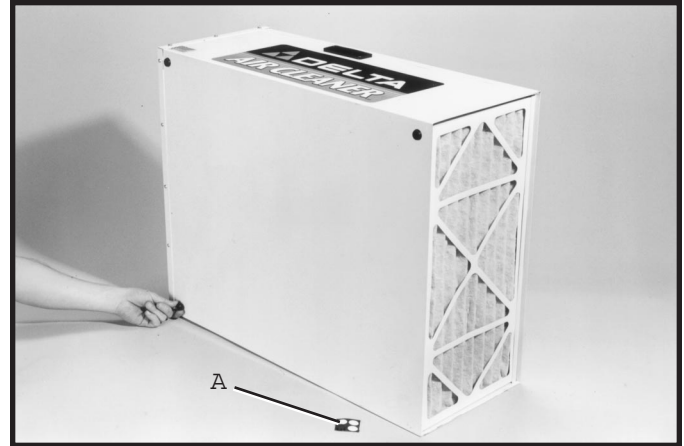

Fig. 3
1. Locate (4) self-adhesive rubber feet (A) Fig. 3, supplied with the unit. Carefully place Air Cleaner on a firm supporting surface so there is access to the bottom of the cabinet as shown in Fig. 3. Apply one self-adhesive rubber pad (A) Fig. 3, to bottom at each corner of air cleaner cabinet. The rubber feet will help eliminate vibration and the possibility of the air cleaner walking across the work or floor surface.